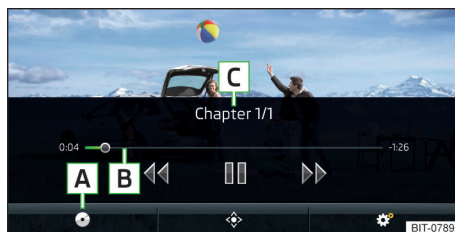

Fig. 174
Main menu » Fig. 174
Forward / rewind the video at the desired time	Tapping the reproduction timeline B » Fig. 174 on page 151
- To **display** the DVD menu, in the main menu *Video DVD*, tap the function surface ⬢ » Fig. 174 on page 151.